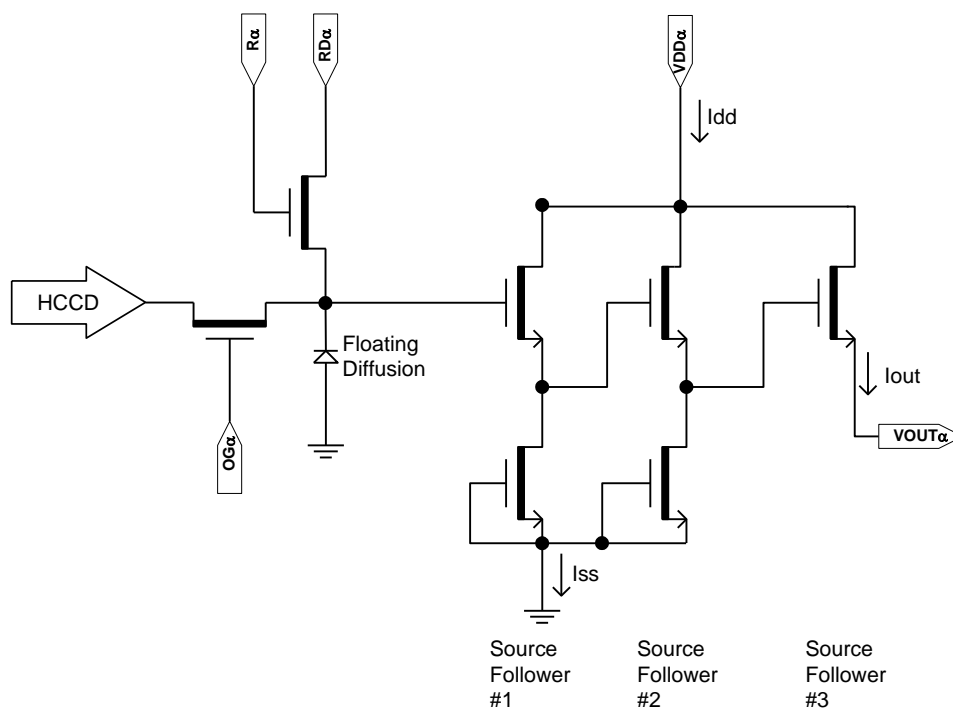

Figure 16: Output Amplifier
2. The maximum DC current is for one output. $I_{dd} = I_{out} + I_{ss}$. See Figure 16.